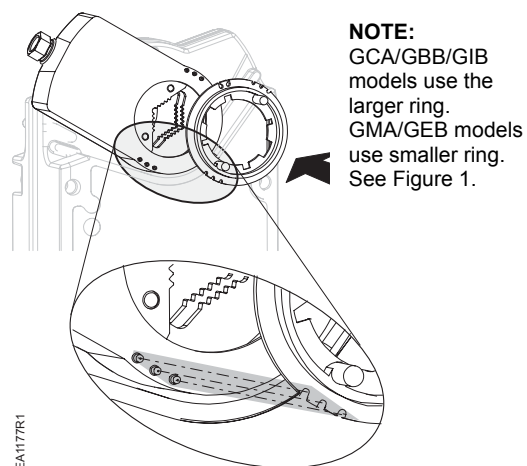

Figure 6. Attaching the EAS Position Adapter Ring.
3. Align and snap the three open notches on the edge of the EAS position adapter ring in place over the three raised stubs on the actuator shaft adapter. (See Figure 6).